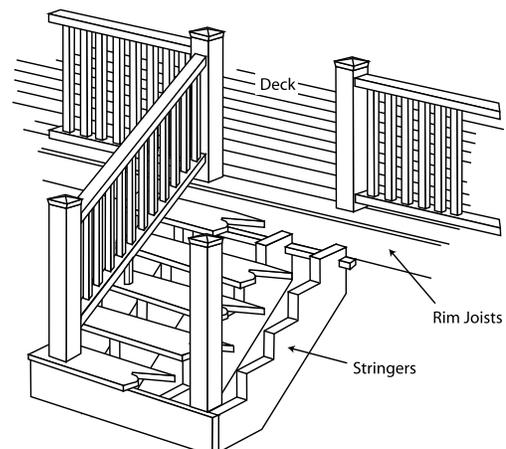

Figure 26
1. Position two line posts at top of stairway with the desired spacing and secure each post with the appropriate installation method (Figure 26).